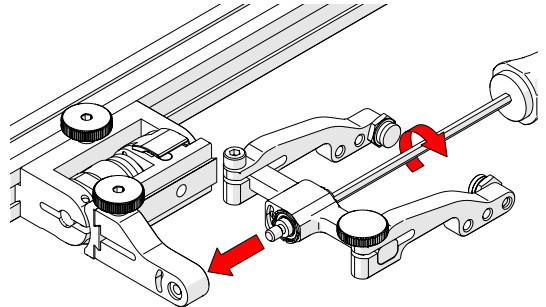

Fig. 63 - Install yoke to swing arm
6. Using the 3 mm hex driver, screw the yoke pivot screw into the opposite side of the probe holder swing arm (*Fig. 63*). Ensure the yoke is level to avoid issues with the plunger/set screw.